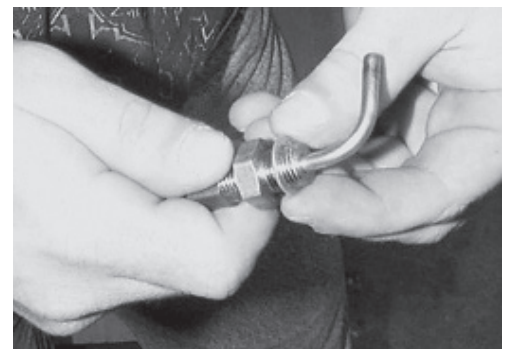

Figure 2
8. **NOTE:** Verify aluminum washer is seated flush against probe bushing before proceeding (**see Figure 2**). Insert new probe into hole and secure bushing to cooking vessel using 11/16" wrench.